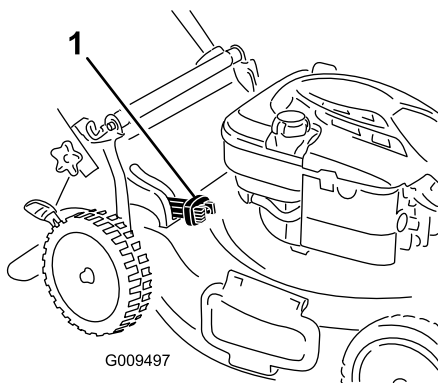

Figure 17
- For bagging the grass and leaf clippings, press the button on the bag-on-demand lever and move the lever forward until the button on the lever pops up (Figure 17).